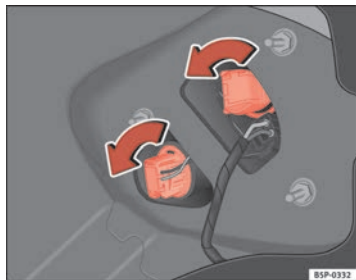

Fig. 195 Lights on vehicle body
- Turn the bulb holder to the left ⇒ fig. 195.